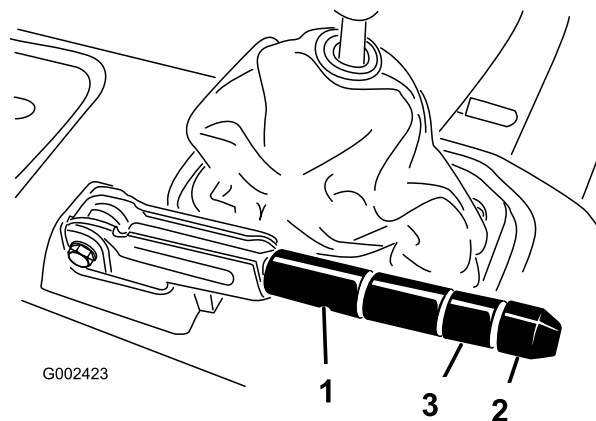

Figure 48
2. Loosen set screw securing knob to parking brake lever (Figure 48).